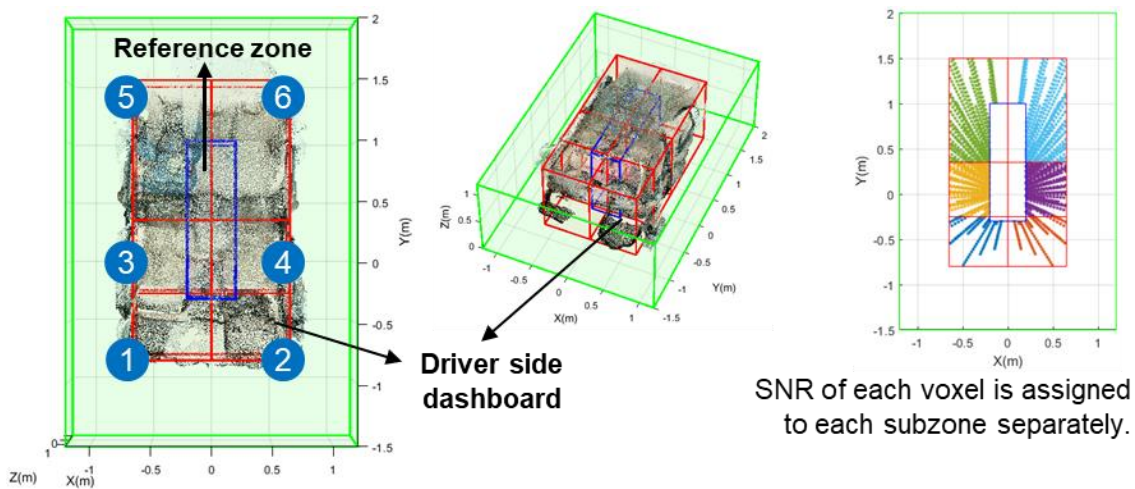

Figure 2. Definitions of a typical car boundary that consists of a reference zone and multiple target zones.
In the proposed high-level processing logic, we first partition the entire scene into target and reference zones. Once we estimate the SNR information in every voxel point in the field of view (i.e., range, azimuth, and elevation), we assign this information at each point to the predefined zones (e.g., target zones) where the occupancy is expected to occur. We also define a reference zone in the same boundary region, where an occupancy state is not expected (i.e., reference zone), and assign the extracted SNR information of the corresponding voxel points to this reference zone. In an intruder detection task, the reference zone can be the central region of the vehicle, while the target zones can be defined as the boundary regions of the vehicle (e.g., windows and doors, etc.). This assignment is valid in a real-world intrusion scenario since the central region of the vehicle cannot be occupied before the boundary regions; hence, the central region can be used as a reference non-occupied zone. Therefore, the processing chain can detect an intrusion when the reference zone is not occupied as planned, and the intrusion happens through the vehicle boundary. As shown in Figure 2, a typical car boundary can be divided into six zones: (1)(2) Dashboards, (3)(4) 1st Rows, (5)(6) 2nd Rows.